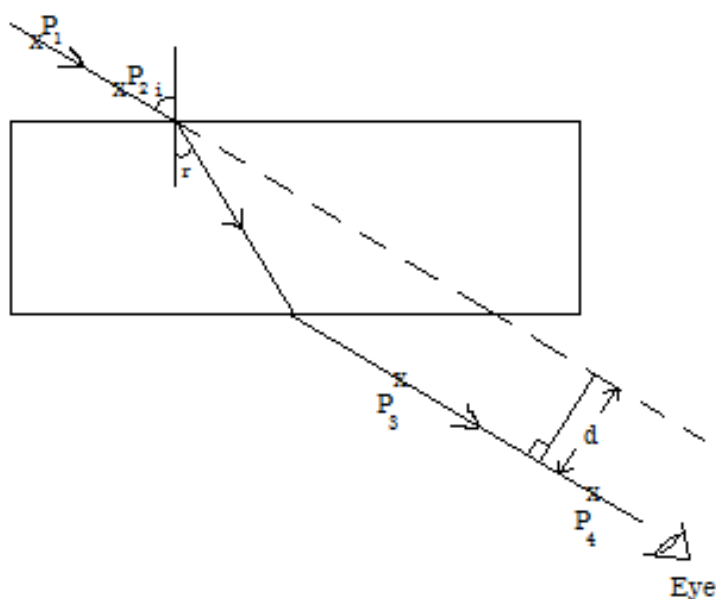

Fig. 2
2. You are provided with a glass block, drawing board, optical pins and plane papers. Place a white piece of paper on the drawing board. Place the glass block with one of its largest surface top most on top of the white paper. Mark the outline of the glass block on the paper with a pencil. Remove the glass block and draw a normal as shown in Figure 2 below.
Remove the glass block and draw the complete path of the ray (see Fig. 2). Measure the angle of refraction, r .